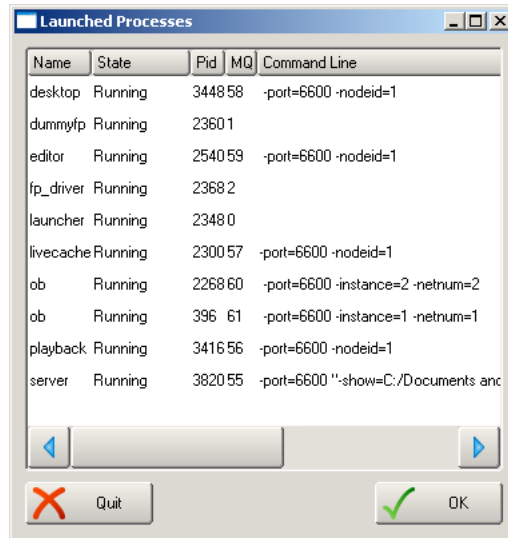

Figure 36.1. The Launched Processes window
1. Pig + Open + Backspace : open the Launched Processes window; see *Figure 36.1, "The Launched Processes window"*.